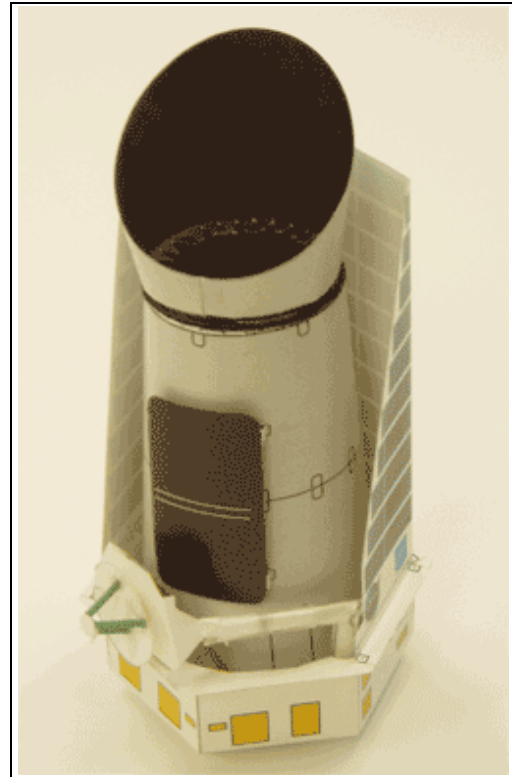

Figure 6.
39. The back of the HGA should now be able to be stowed against the HGA cradle, part 19. See Figure 6.
41. Mount the photometer to the spacecraft. **This takes patience.** First note where position A should be on the spacecraft base, 2 panels over from the boom on one side and 2 panels over from the HGA on the other side. This is the location for the back seam on the photometer and high side of the sunshade. The arrow on the bottom of the photometer base should point to position A on the spacecraft base. If you haven't done the fit check in step 22, do it now from the bottom up into the spacecraft base so you can see the slits. Now insert the base of the photometer into the hexagonal spacecraft base. See Figure 6.